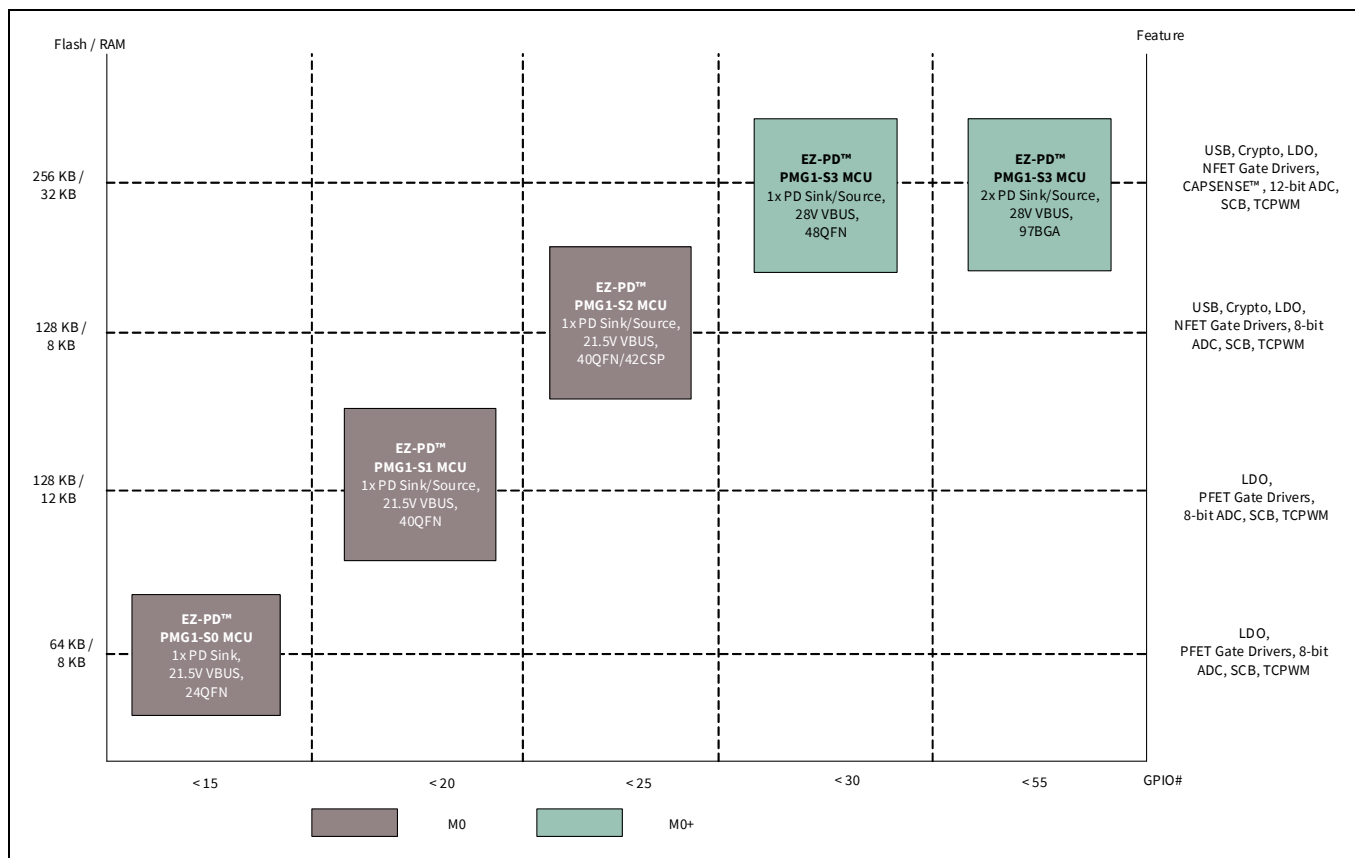

Figure 1 EZ-PD™ PMG1 family segmentation
EZ-PD™ PMG1 (Power Delivery Microcontroller Gen1) is a family of high-voltage USB-C Power Delivery (PD) microcontrollers (MCU). These chips include an Arm® Cortex®-M0/M0+ CPU and USB-C PD controller along with analog and digital peripherals. EZ-PD™ PMG1 is targeted for any embedded system that provides/consumes power to/from a high-voltage USB-C PD port and leverages the microcontroller to provide additional control capability. **Figure 1** illustrates the EZ-PD™ PMG1 family segmentation.